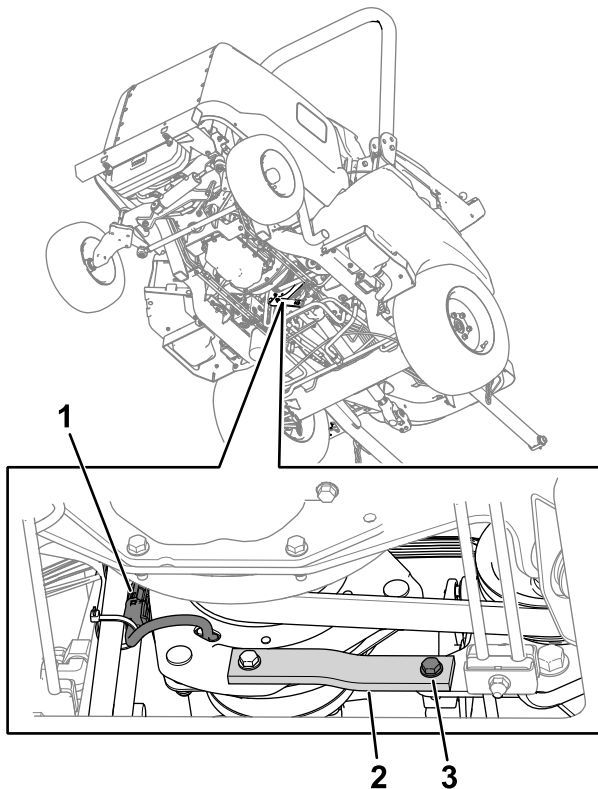

Figure 77
2. Unplug the clutch-wire-harness connector from the machine wire harness (Figure 77).
3. Remove the bolt, washer, and nut from the rubber strap (Figure 77) on the frame.